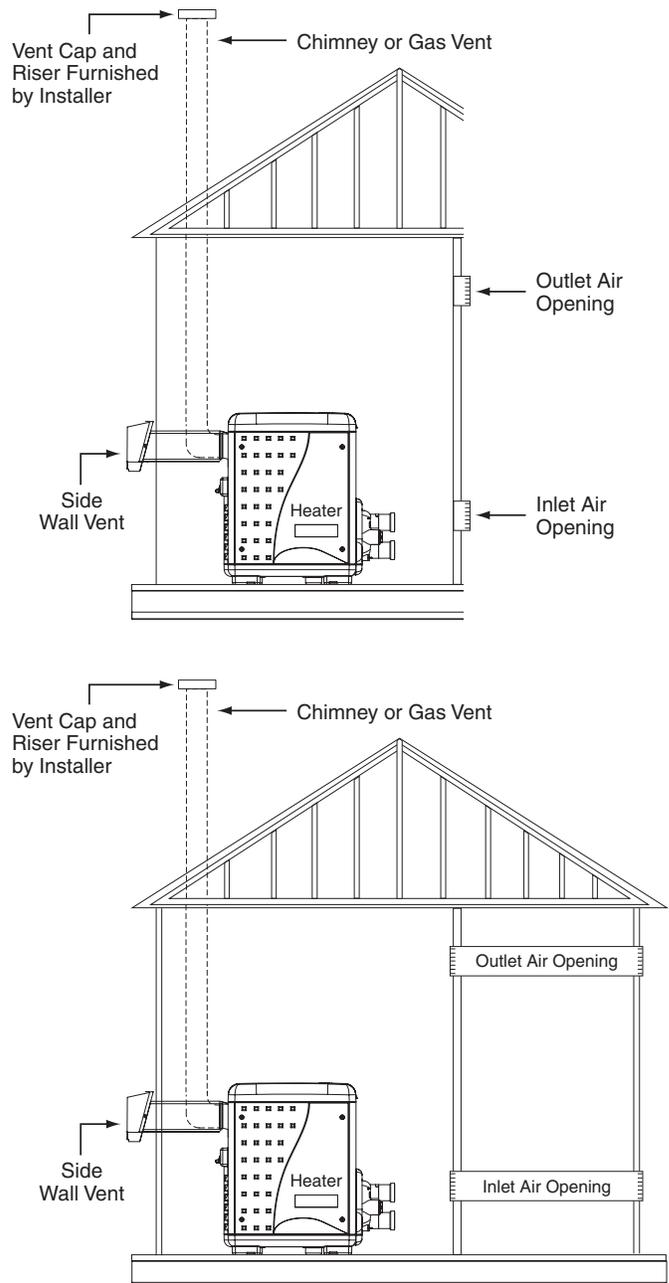

Figure 19/20.
HORIZONTAL OR VERTICAL VENTING - POSITIVE PRESSURE (See Figures 19, 20, & 21)
6. **Vent Termination – Vertical (See Figures 19 and 20),** for height of vent termination above the roof. Use an "Approved" vent terminal specified by local and national codes and your manufacturer's instructions. A roof termination must be vertical. In Canada, the Vent Cap location shall have a minimum clearance of 4 feet (1.2M) horizontally from electric meters, gas meters, regulators, and relief openings.